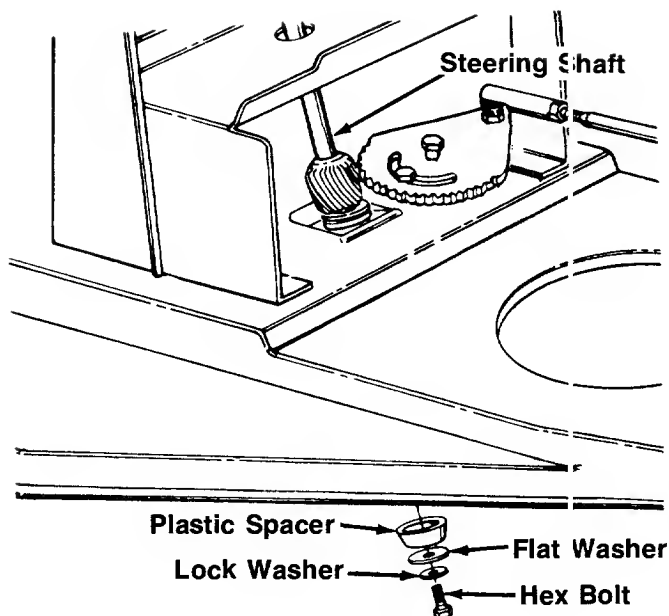

FIGURE 7.
4. Secure bottom of the steering shaft as follows. See figure 7.